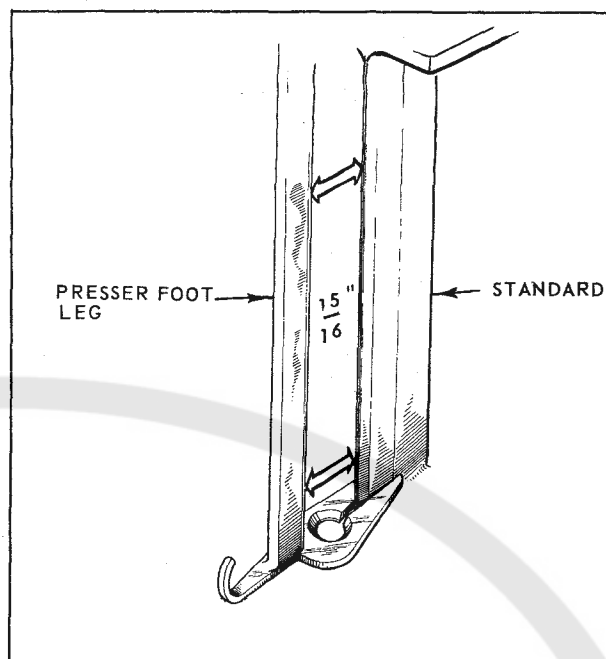

Figure 7.
To obtain a proper and uniform bevel on the machine, it is necessary that the presser foot leg (29) be at the proper distance from the standard. With the presser foot leg all the way down, the distance from the back of the leg to the standard should be equal at both the top of the standard and at the bottom of the standard. For the Model E machine, this distance should be approximately  $\frac{15}{16}$ " , See Figure 7.